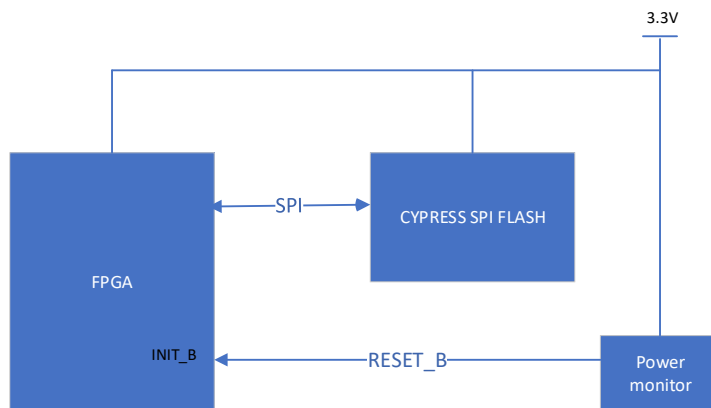

Figure 10. Power On Reset using power monitor supervisor
1. Use external control to hold the INIT\_B or PROG\_B pin Low until SPI Flash has powered up reliably and is ready to accept commands. For this solution, use an open-drain or open-collector output when driving INIT\_B or PROG\_B pins. One example of external control is using a Power Monitor Supervisor device as seen in Figure 10, there are many available devices on the market from companies such as TI and Analog Devices.
One example of the Power Monitor Supervisor is the Analog Devices ADM6384x27D2. The RESET# signal from this device is held Low until its power supply voltage reaches  $2.7\text{ V} + 20\text{ ms}$  ( $t_{RP}$  time), which is shown in Figure 10.